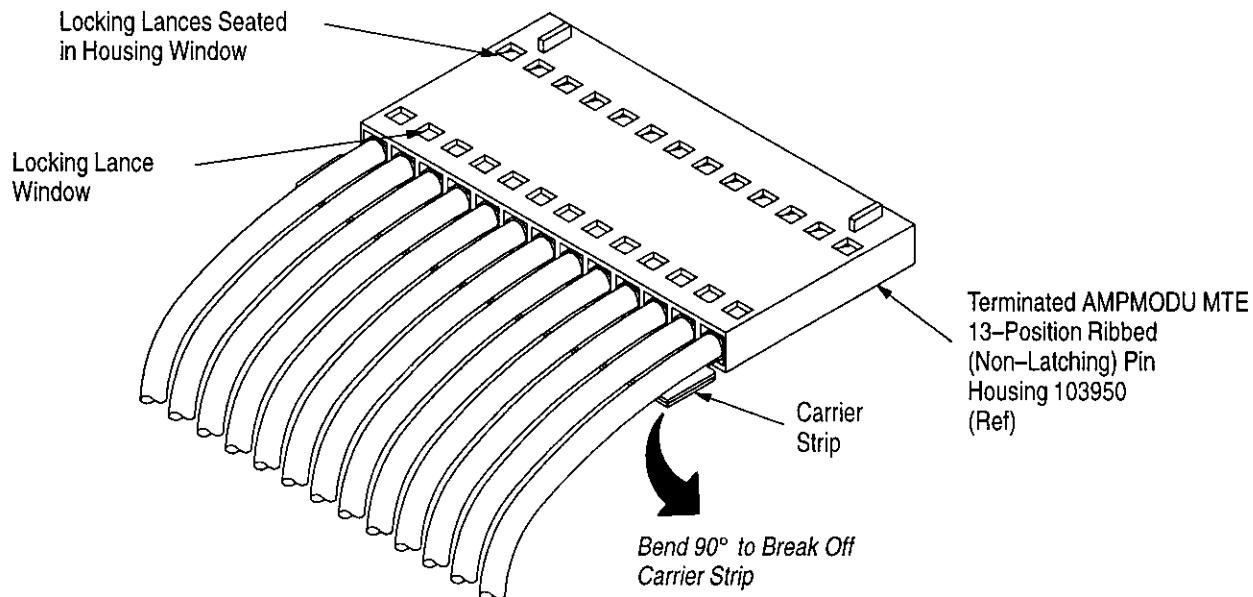

Figure 4
## 4. TERMINATING PROCEDURE (Figures 4 and 5)
*Individual housing assemblies with less than 13 contact positions cannot be terminated in the tube feed assembly. To terminate a housing assembly with less than 13 positions (for example, when making repairs), use a strip-form housing. Terminate the contacts in the housing; then push the carrier strip through the insertion station assembly and remove the housing from the tube feed assembly. Inspect the contacts to ensure proper termination. Refer to Section 5, TERMINATION INSPECTION. Manually seat the contacts into the housing until the locking lances are seated against the housing window. Grasp the carrier strip and bend it downward in a 90° angle; then bend it upward until it snaps off. See Figure 4.*
12. Grasp the carrier strip and bend it downward in a 90° angle; then bend it upward until it snaps off. Refer to Figure 4.